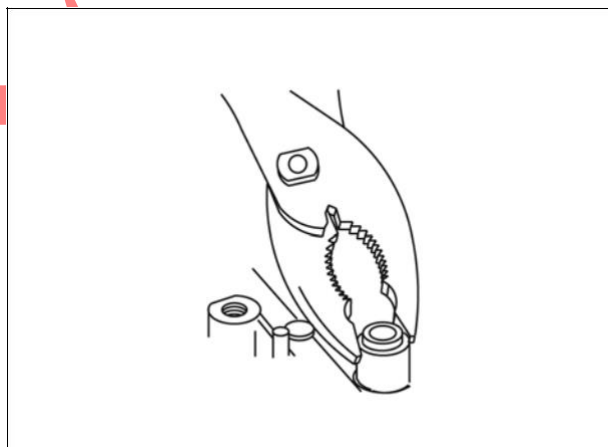

Figure 11
5. Remove and discard valve stem seals (Figure 11).